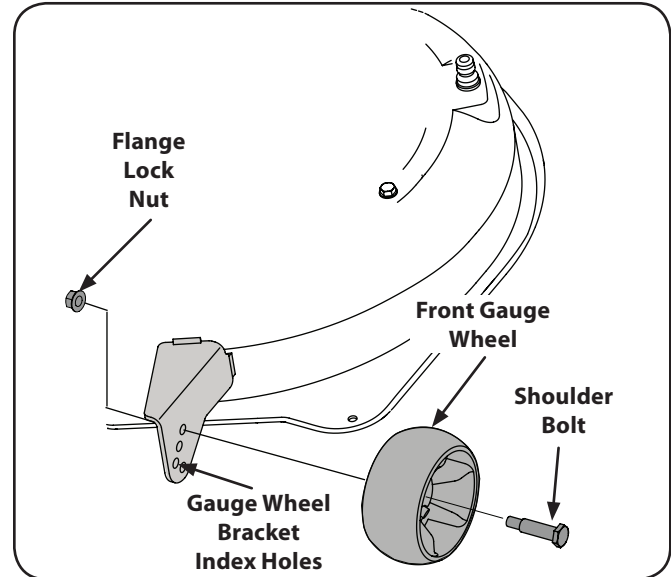

Figure 6-7
3. Remove the flange lock nut and shoulder bolt securing one of the front ball wheels to the front index bracket. Reposition the ball wheel to align with the one of five index holes that places the wheel $\frac{1}{4}$ " to $\frac{1}{2}$ " above the ground. Secure the ball wheel to the index bracket with the shoulder bolt and flange lock nut. Note the index hole used and secure the other ball wheel in the same position. See Fig. 6-7.